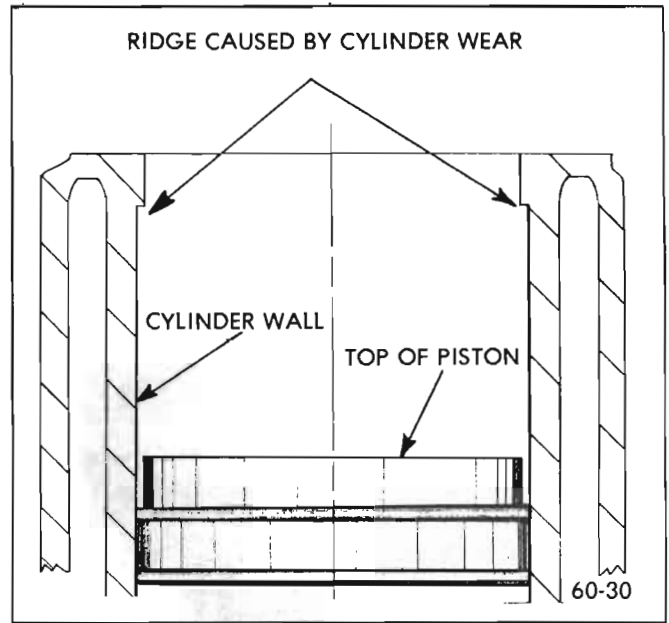

Figure 60-39 - Ridges Worn by Ring Travel
2. Examine the cylinder bores above the ring travel. If bores are worn so a shoulder or ridge exists at this point, remove the ridges with a ridge reamer to avoid damaging rings or cracking ring lands in pistons during removal. See Figure 60-39.